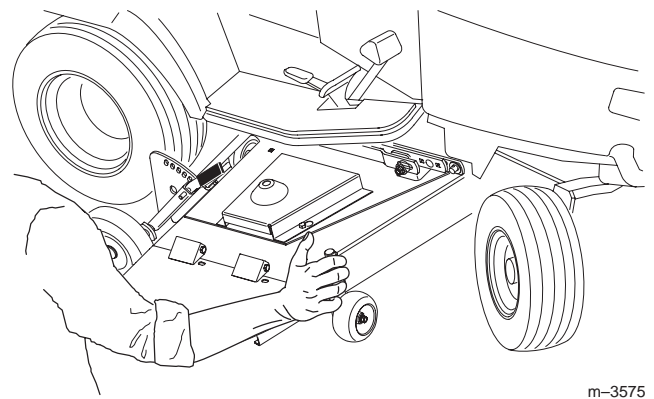

Figure 11
6. After the two J-pins are seated through the mower mounting brackets, using the attachment lift and your hand on the right front adjustable mower wheel bracket (Fig. 11), position the mower so its attachment bar fits into the mid Attach-A-Matic™ mount.